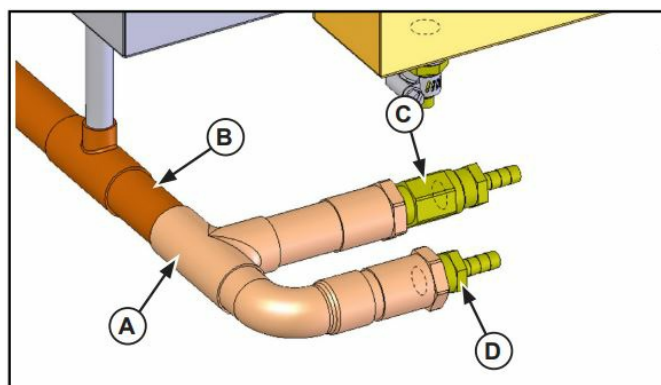

Figure 1. Drain Line and Manifold Assembly .
4. Solder the Auto-Fill manifold assembly (A) to the open end of the drain line (B) from step 2 making sure the auto-fill manifold is level with the existing drain manifold. Figure 1.